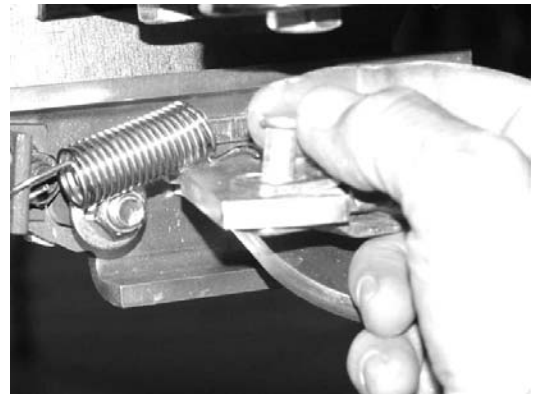
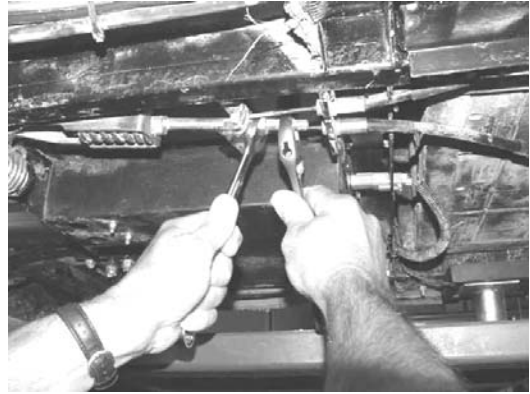

Fig. 11 - Attach brake cable to lever
Fig. 12 - To loosen cable, first loosen locking nut at equalizer bar.
13. Attach cable end to hole on the end of brake actuation lever with original clevis and hitch pin. (See Fig. 11) You may need to loosen the cable at the pedal linkage to have enough slack to install pin. (See Fig. 12)